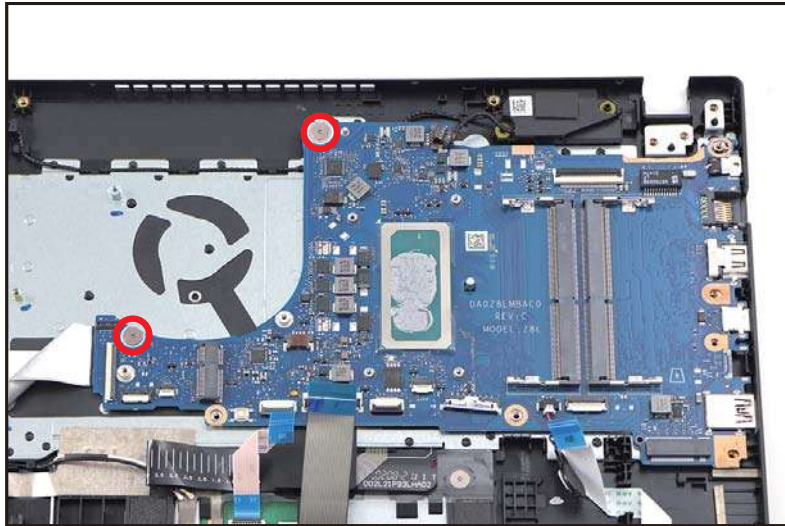

Figure 3-96. Replacing the Mainboard
3. Install and secure two (2) screws to the mainboard (Figure 3-96).